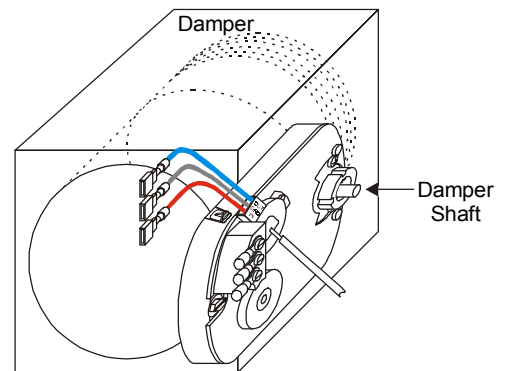

Figure 1: Mounting on the Damper Shaft
1. Position the actuator on the damper shaft so the damper shaft protrudes through the actuator coupler as shown in Figure 1.